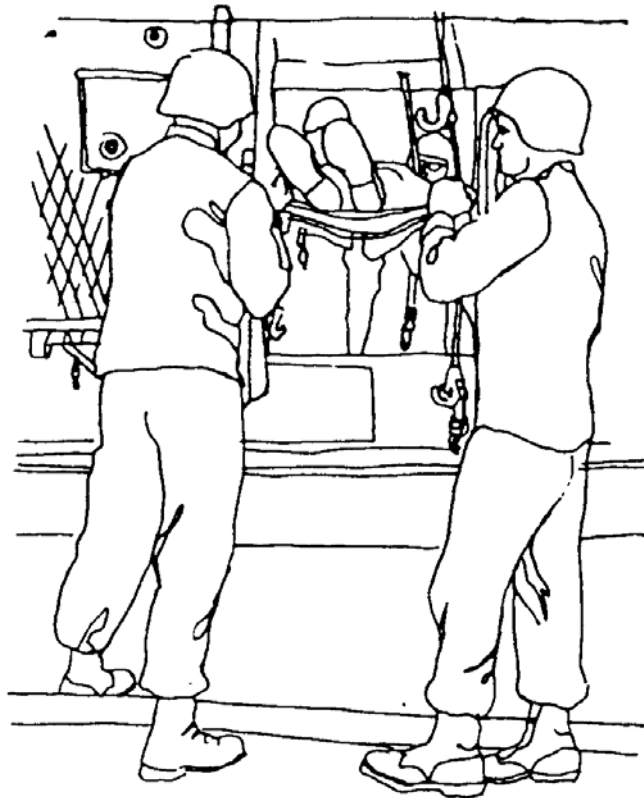

Figure 5-9. Loading a litter into an Iroquois air ambulance (mixed load).
- (1) Carry the litter casualty to helicopter using a four-man carry.
- (2) Turn so the casualty is perpendicular to the cargo compartment with the casualty's head toward the rear of the compartment.
- (3) Lift the litter until the litter handles at the casualty's head can be easily grasped by two crewmen in the rear of the cargo compartment.
- (4) The two crewmembers take the handles from the front bearers and guide the litter into the compartment (figure 5-9). The front bearers can move around the front of the helicopter to the opposite side and assist in supporting the litter and placing the litter handles in the brackets. If crewmembers cannot assist, the front bearers set the front stirrups on the floor of the helicopter, move around the front of the helicopter to the other side, and lift and secure the front litter handles.